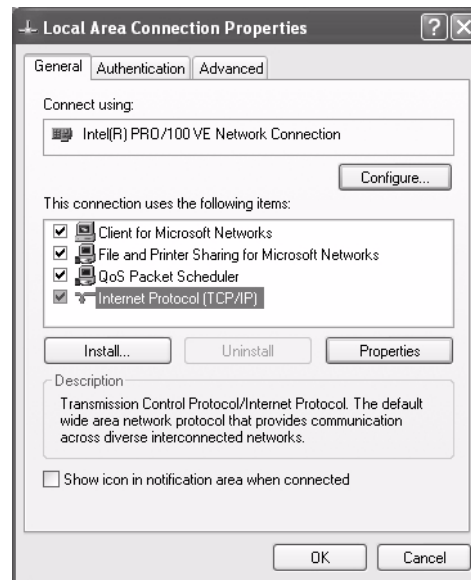

Figure 61: Local Area Connection Properties - Windows XP
4. Ensure that the Client for Microsoft Networks and Internet Protocol (TCP/IP) are installed and checked as shown in Figure 61. If NetBEUI is installed, uninstall it.